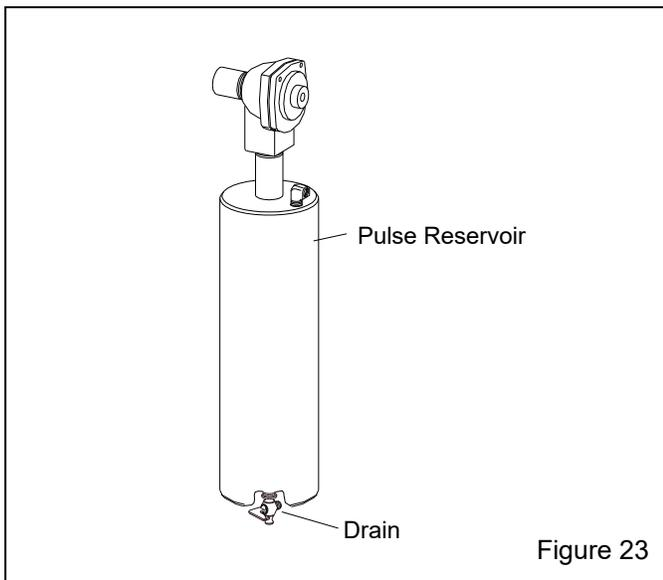

Figure 23
6.2.3 Drain pulse reservoir – Figure 23: Open the petcock to drain water from the pulse reservoir before and after each use.